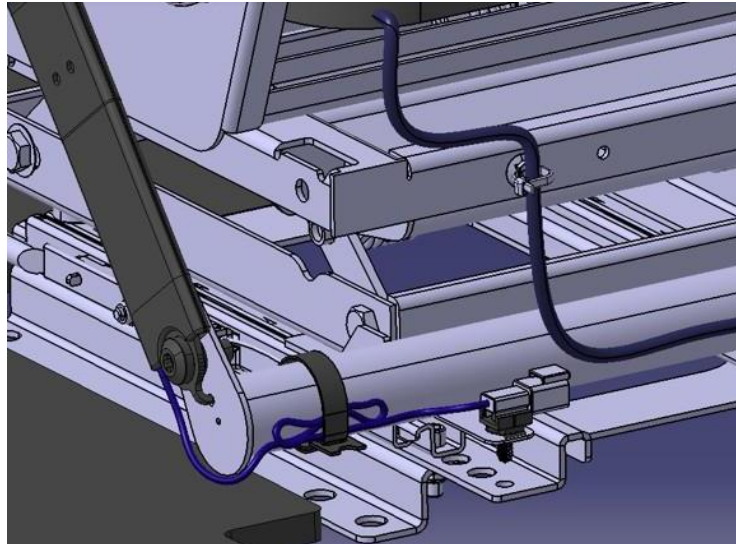

Figure 4
11. Route the remainder of the harness as shown in Figure 4 where the harness is secured to the bottom of the seat frame tube and has an approximate 3.0” to 5.0” loop in the harness secured by the first Velcro Strap as noted by the red-dashed line.